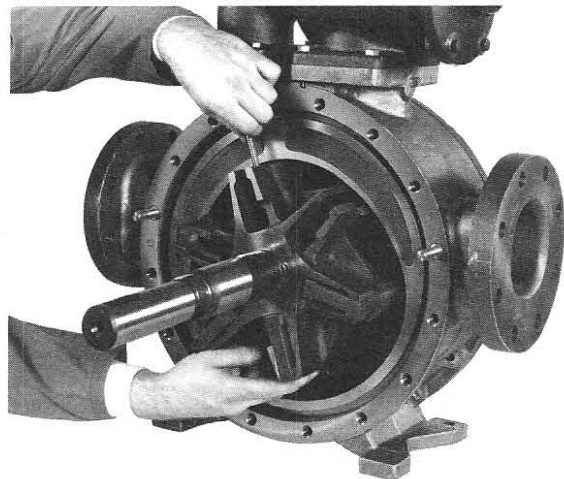

Figure 7
- b. Part of the rotor should remain outside of the casing such that the three bottom vanes (rounded edge outward) can be inserted into the rotor slots and held in place while all three push rods (77) are inserted (see Figure 7).